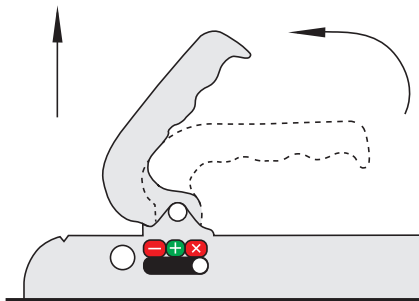

Figure 2
1. To remove the coupling, release the coupling head lock and pull the handle upwards to release the trailer from the ball mount (see Figure 2). If possible, use the support wheel for easier lifting.